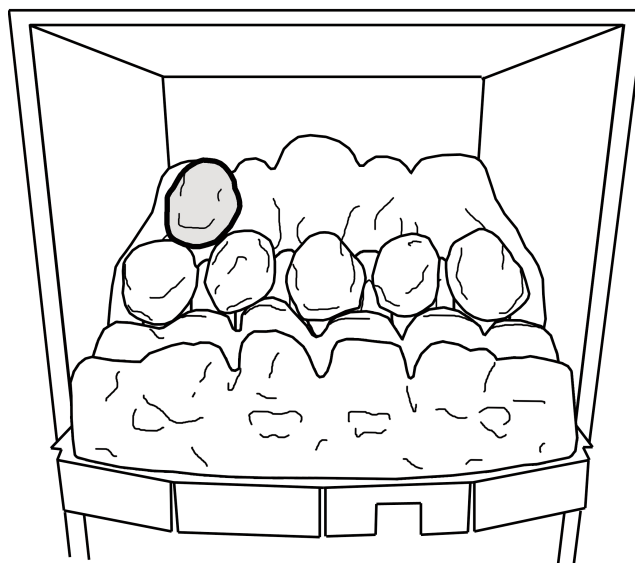

Figure 8. Third row "Coal F"
9. Hold coal 'F' upright with the arrow pointing to the top. Locate coal 'F' as shown in figure 8.